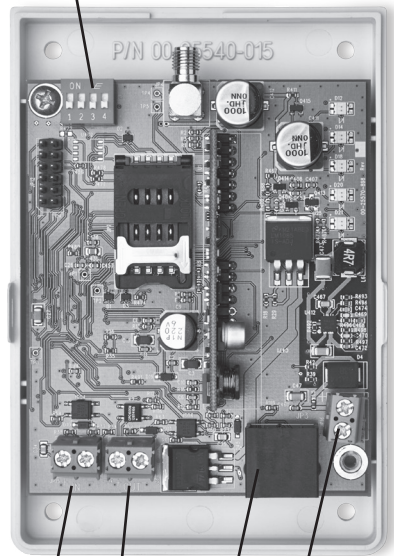

FIGURE 1: Model LTE30EX PC Board Details
3. Go to the red, 4-position Dipswitch as shown in Figure 1 and set the dipswitch as appropriate for this installation. (See DIP Switch Settings, page 12.)
5. Position the bottom of the LTE30EX enclosure where it will be installed. Use four (4) #6 screws and mount the unit using the four holes in the enclosure's plastic bottom.